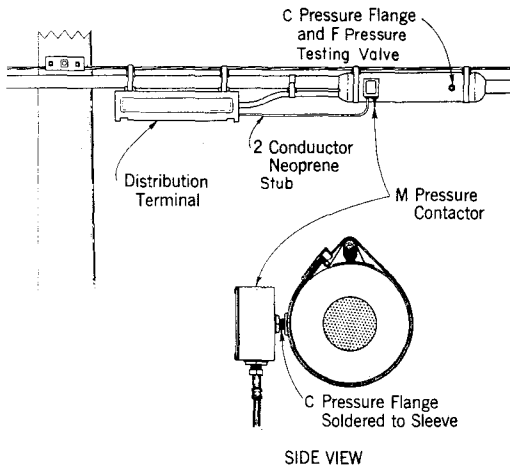

Fig. 12—M Pressure Contactor Installed on a Sleeve
5.14 Installation at a Sleeve: Where the contactor installation is to be made on a sleeve, it is necessary to place two C pressure flanges; one for mounting the contactor and the other for mounting the F pressure-testing valve. The pipe threads on the valve and the pipe fitting of the contactor must be coated with thread compound before inserting into the flanges. A typical installation on a sleeve is shown in Fig. 12.